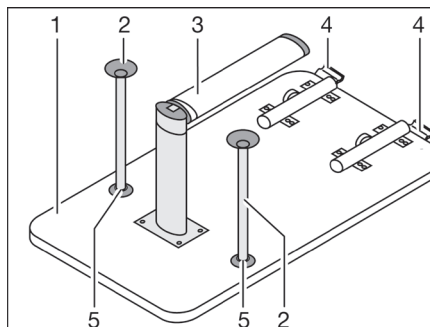

Fig. 65 Bed foundation
- ▶ Lift the front of the table-top (Fig. 65,1) by approx. 45°.
- ▶ Fold the lower part of the fold-out leg (Fig. 65,3) by 90°. Depending on the model, pull the lower part of the fold-out leg down or push the release knob.
- ▶ Press the release button on the lock (Fig. 65,4).
- ▶ Depending on the model, insert both additional support legs (Fig. 65,2) into the holders (Fig. 65,5) on the bottom side of the table.